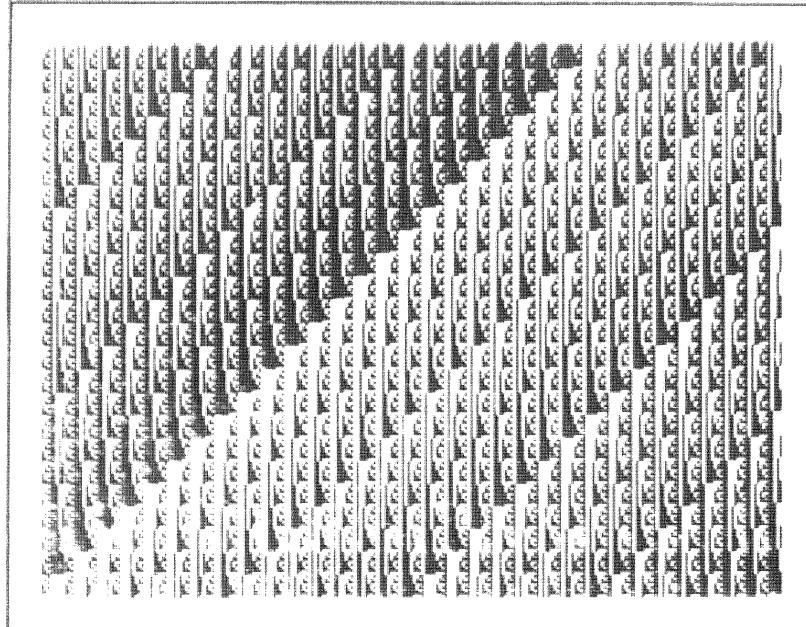

Figure 8-3. CRT Test Pattern 2
- c. The pattern (CRT test pattern 2) shown in figure 8-3. This pattern remains on the screen for about 16 seconds.